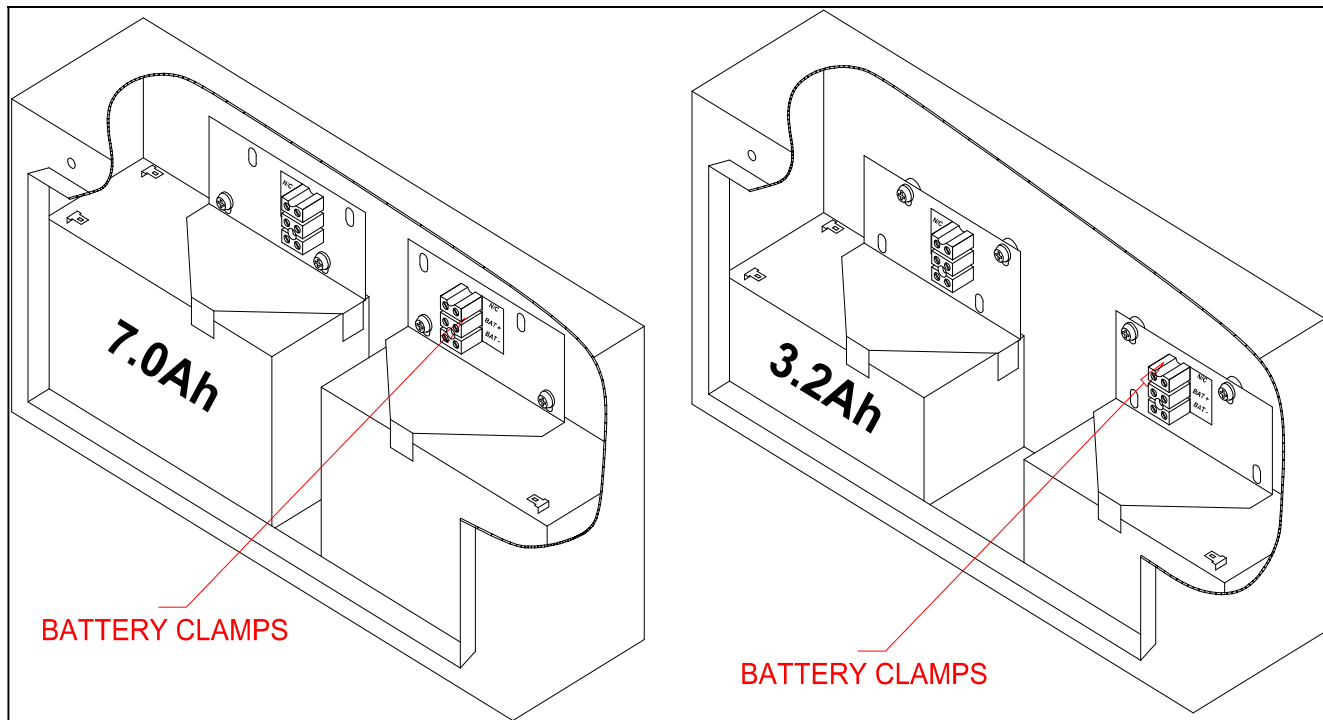
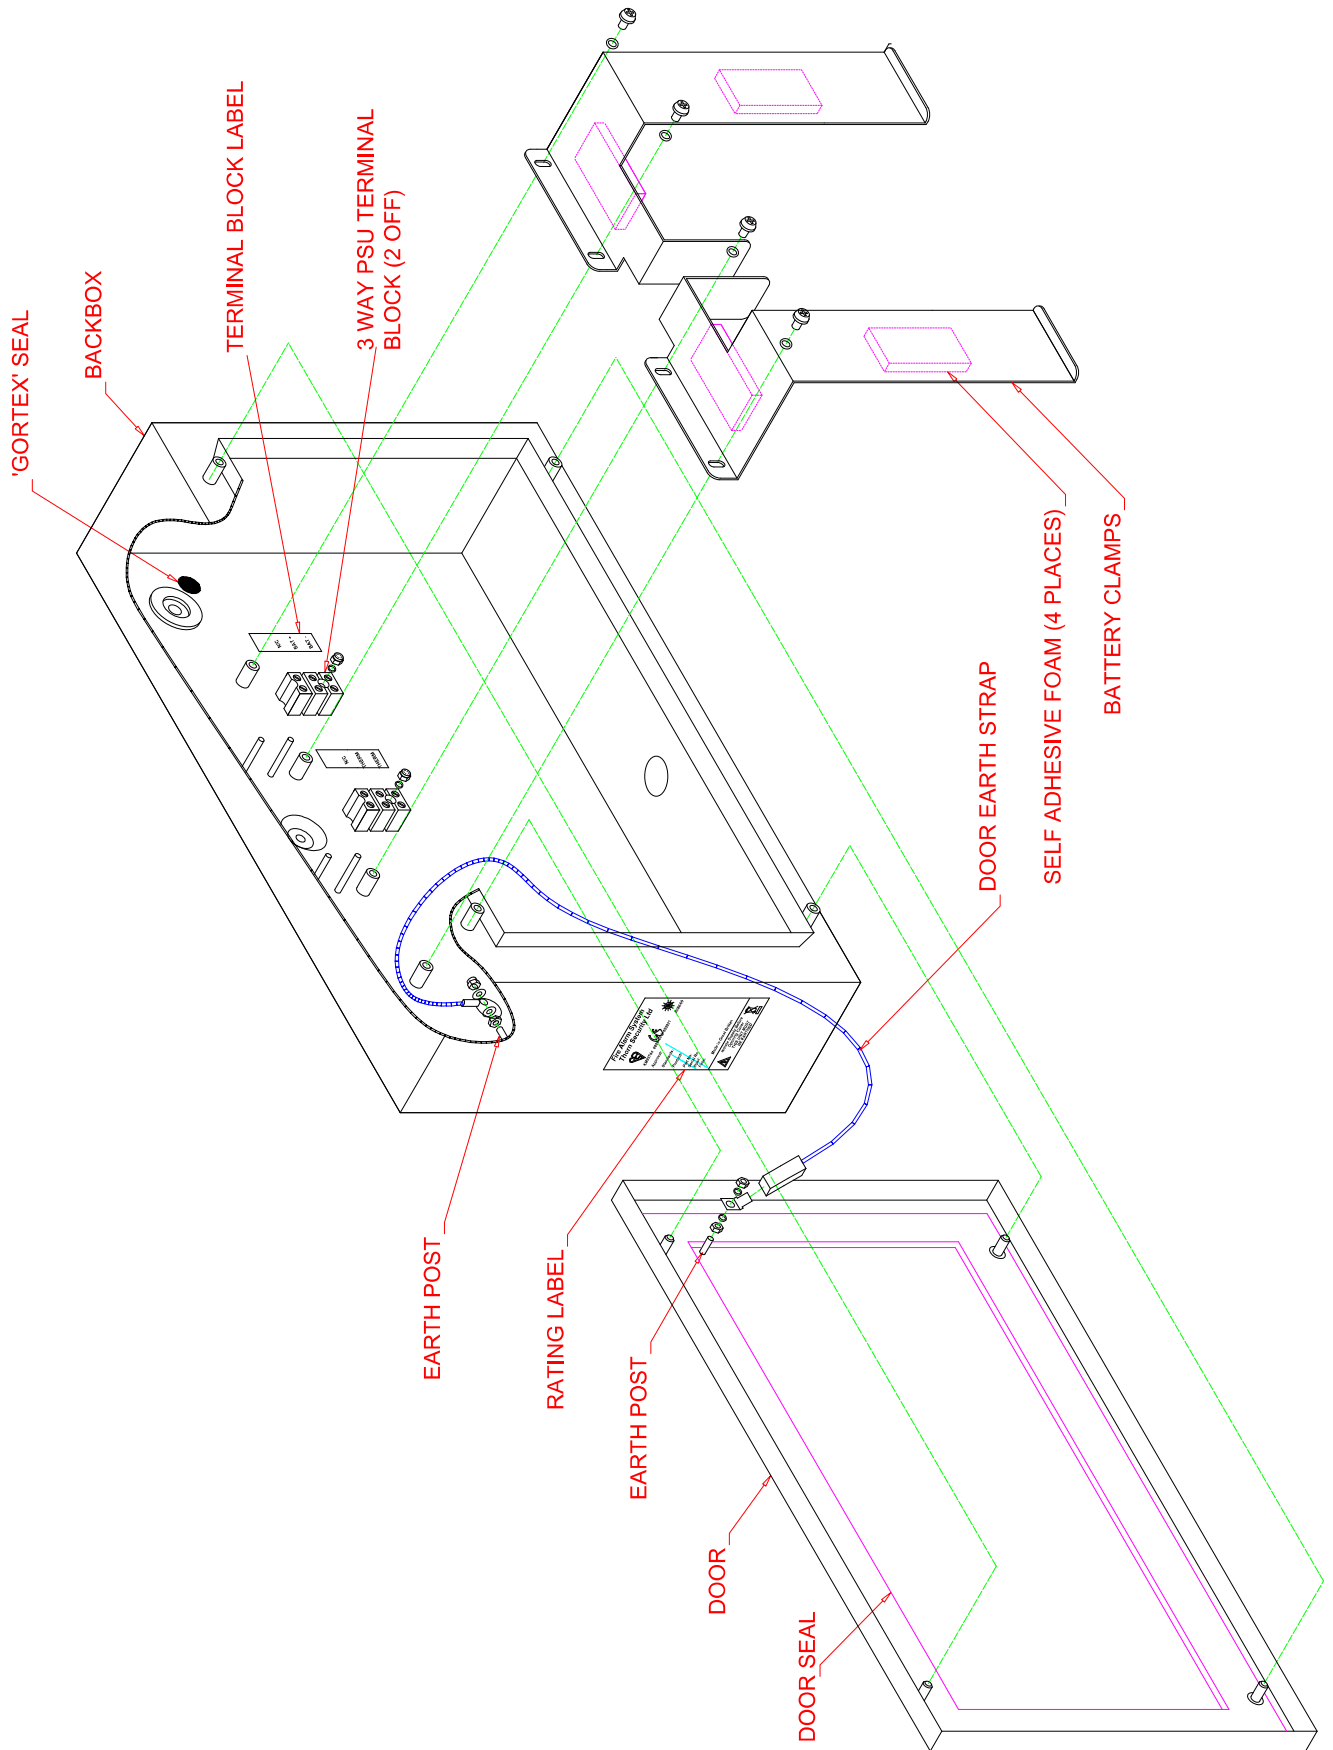

Figure 2 – Battery clamp details - T1200B
Figure 3 – Battery clamp details - T1200B-C
4. Fix the battery retaining clamps. [See Figure 2 and Figure 3].